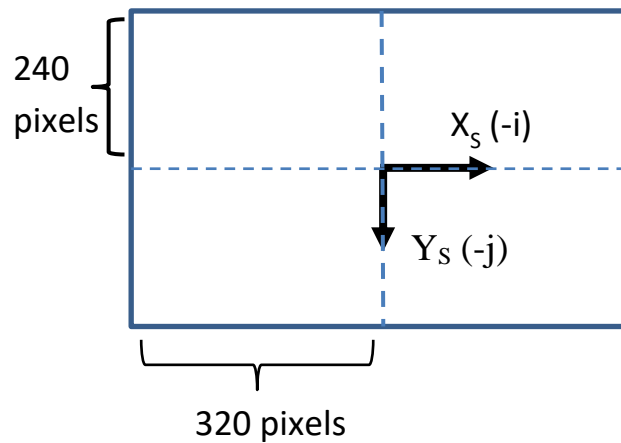

Figure 6: Sign convention for pixel location.
- Find the distances of the object center in both x and y directions from the center of the image. These distances are in pixels and they should follow the sign convention in Figure 6.